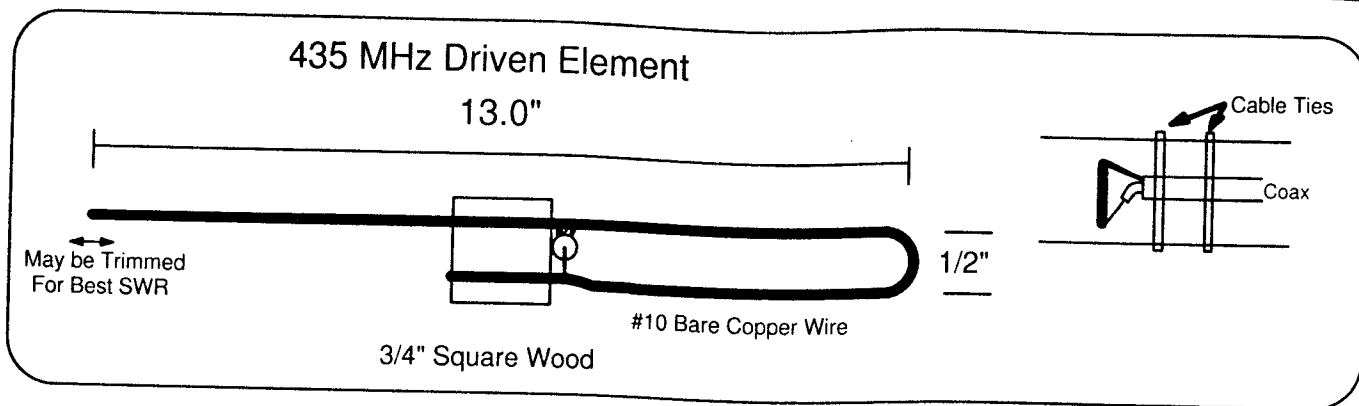

Figure 4. Detail of dimensions for driven element of all the antennas described in this month's column. See Table for dimensions and spacing of other elements.
* Driven Element for all versions; see Figure 4